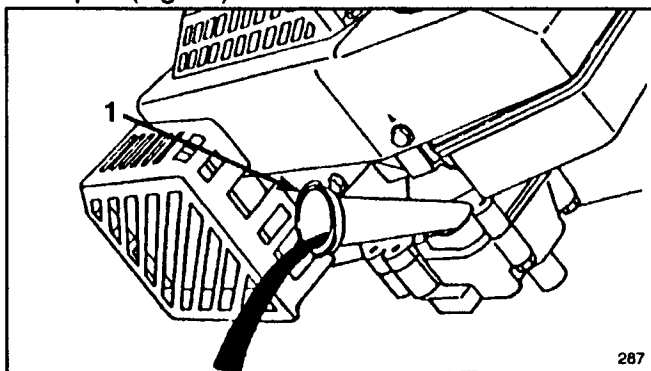

Figure 21
7. Tip mower on its left side, allowing oil to drain into drain pan (Fig. 21).